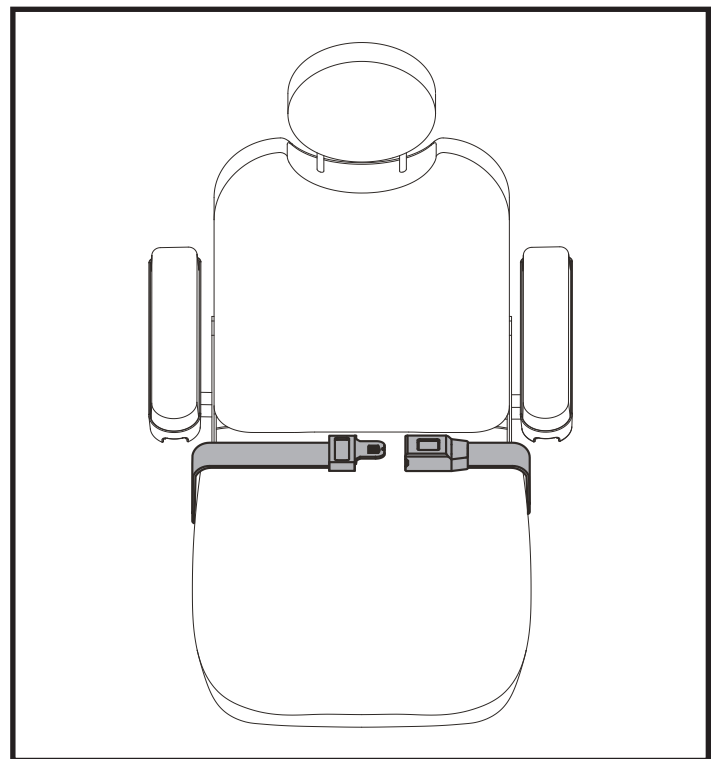

Figure 14. Positioning Belt Adjustment
Your power chair may be equipped with a positioning belt that can be adjusted for operator comfort. See figure 14. The positioning belt is designed to support the operator so that he/she does not slide down or forward in the seat. The positioning belt is not designed for use as a restraining device.
1. Once seated, insert the metal tab on one side of the belt into the plastic housing on the opposite side until you hear a click. **See figure 14.**